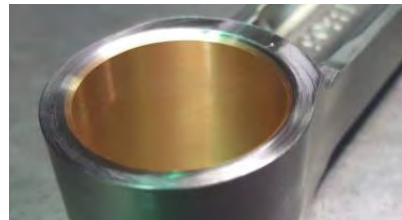

Figure 3
NOTICE: Some connecting rod bushings have a straight edge (Figure 2) and others have a chamfered edge (Figure 3) on both sides after the bushing is installed at the factory. Some inspection steps apply specifically to the design application.
- B. On *chamfered connecting rod bushings* (Figure 3), look at the perimeter edge of the applicable connecting rod bushing within the connecting rod.